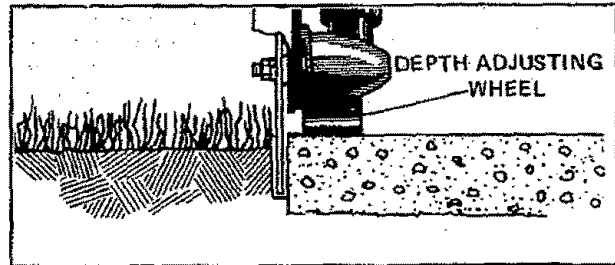

Figure 14
3. Keep your edging path straight by guiding the depth adjusting wheel flat on the walkway. Figure 14.